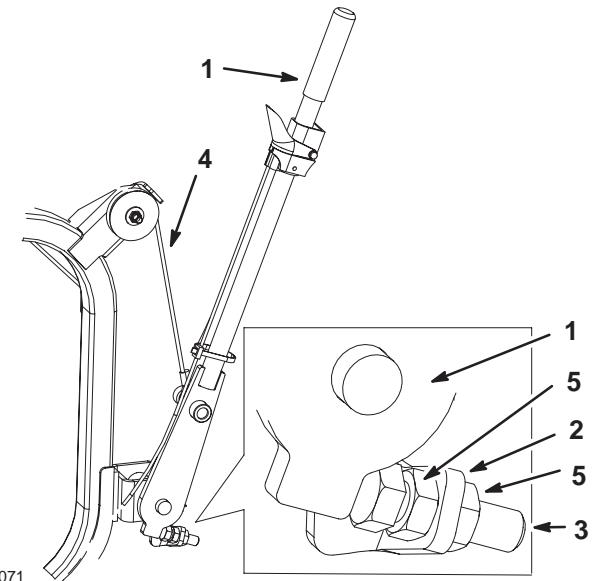

Figure 26
3. Tighten the nuts on both sides of the stop bracket (Fig. 26).
1. Loosen the nuts on both sides of the stop bracket (Fig. 26).
2. Adjust the stop bolt until there is **no** slack in the bagger cable (Fig. 26).